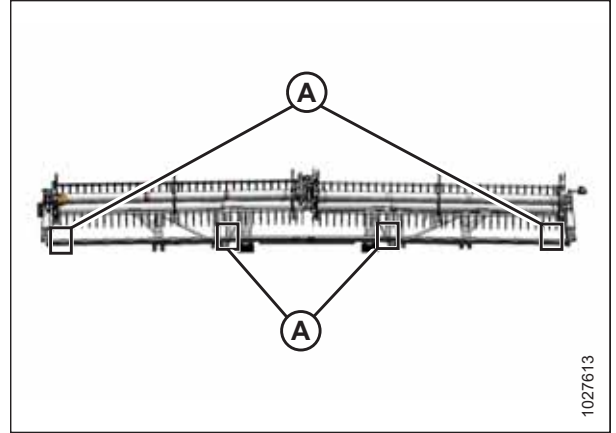

Figure 4.263: FlexDraper® Measurement Locations – Double Reel
- Double-reel headers: Figure 4.263, page 427